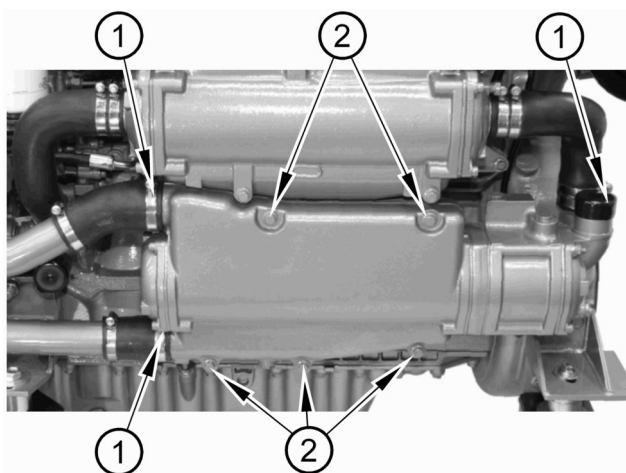

Figure 14
2. Undo the hose clips (figure 14 item 1).
3. Remove bolts (figure 14 item 2).